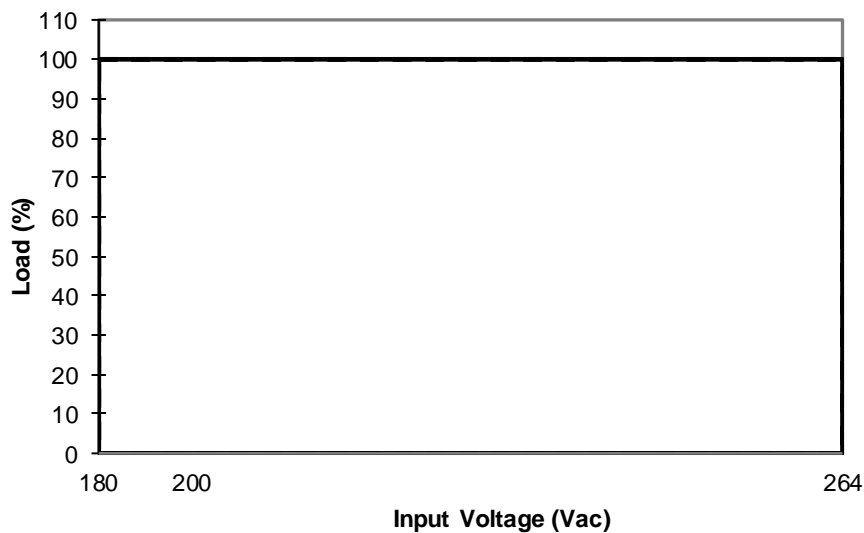

**Fig. 1 De-rating for Horizontal Mounting Orientation**
1. Power supply components may degrade, or be damaged, when the power supply is continuously used outside the shaded region, refer to the graph shown in Fig. 1 & Fig.2.